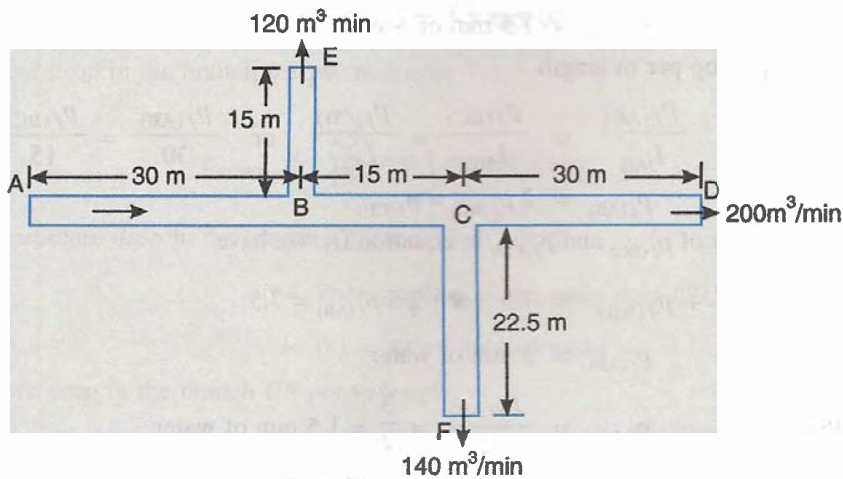

Fig. 20.23
**Example 20.16.** In the air duct system, as shown in Fig. 20.23, air enters at  $A$  with a static pressure of 7.5 mm of water. The branch at  $B$  is 15 m long and delivers  $120 \text{ m}^3/\text{min}$ . The branch at  $C$  is 22.5 m long and delivers  $140 \text{ m}^3/\text{min}$ . At the end  $D$  of the main duct, the air delivered is  $200 \text{ m}^3/\text{min}$ .